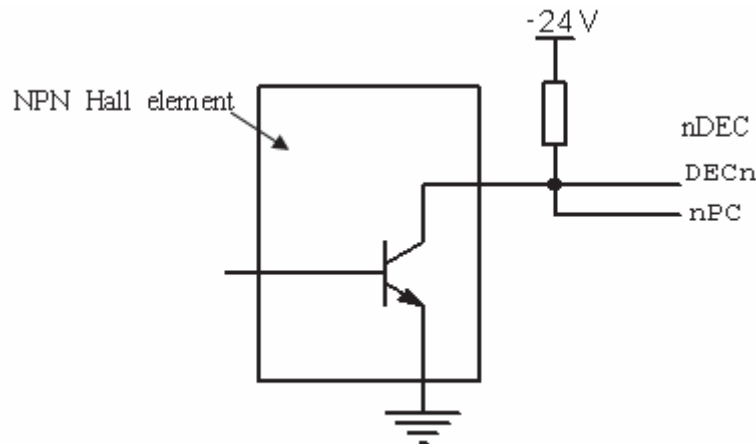

Fig. 2-8 Connection using NPN Hall elements
a) The connection for NPN Hall elements taken as both deceleration signal and zero signal is shown in Fig. 2-8: